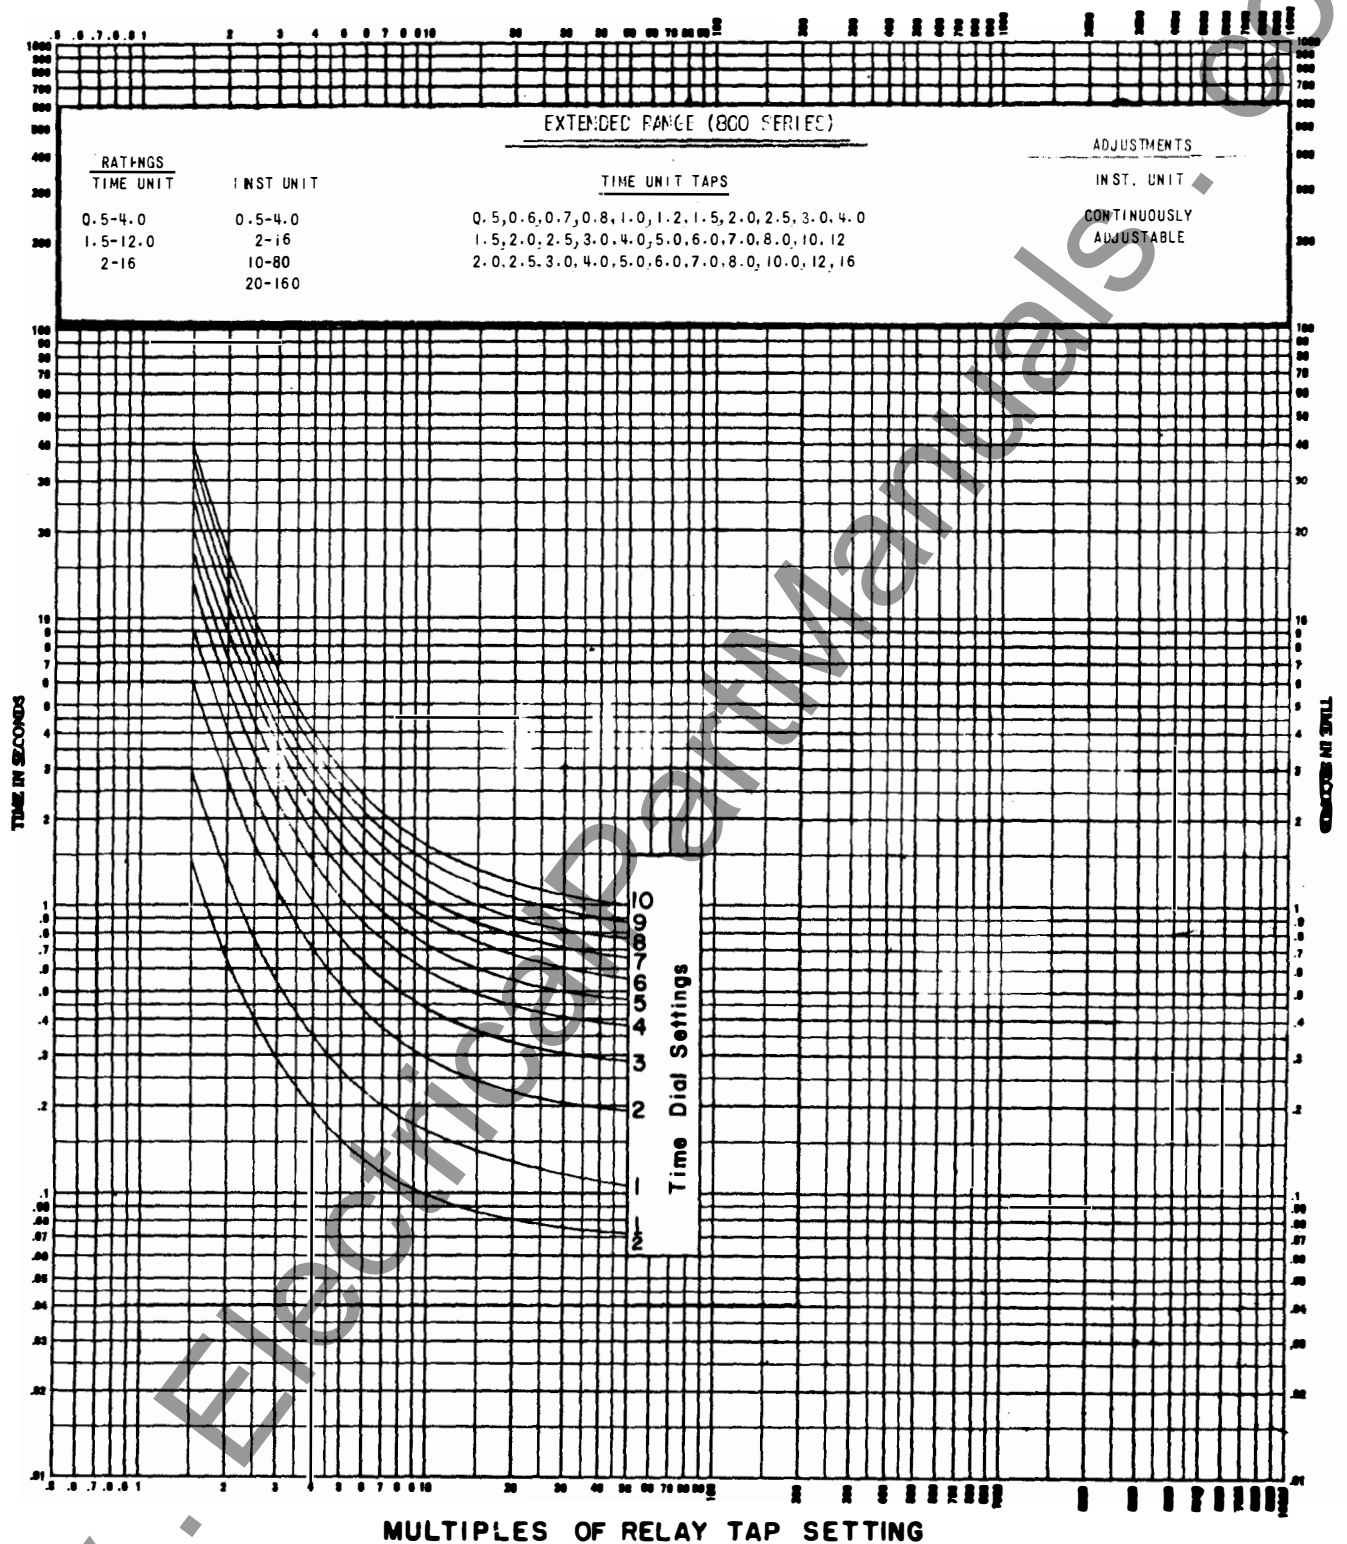

Figure 14 (0888B0270-3) Time-current Characteristics of Very-Inverse-Time Overcurrent Unit
- Figure 14 (0888B0270-3) Time-current Characteristics of Very-Inverse-Time Overcurrent Unit